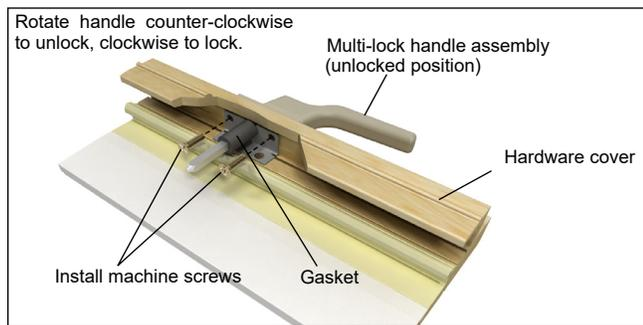

Figure 1 Install the multi-lock handle.
3. Fasten the locking handle with two Phillips head machine screws inserted through the mounting bracket and hardware cover into the handle base. Install gasket by sliding it over the shaft and tight against the sill bracket. See figure 1.